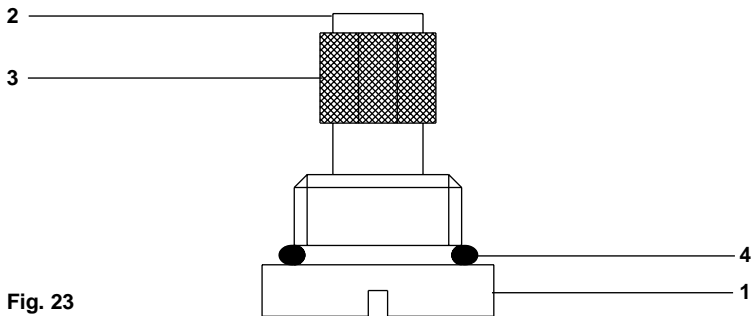

Fig. 23
- Fit the 'O' ring (4) and filter (3) onto the filter plug (1) (refer to Fig. 23).
- Finally fit the retaining screw (2).